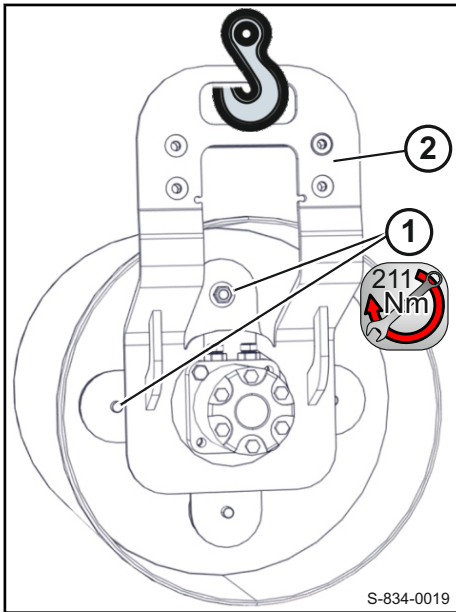
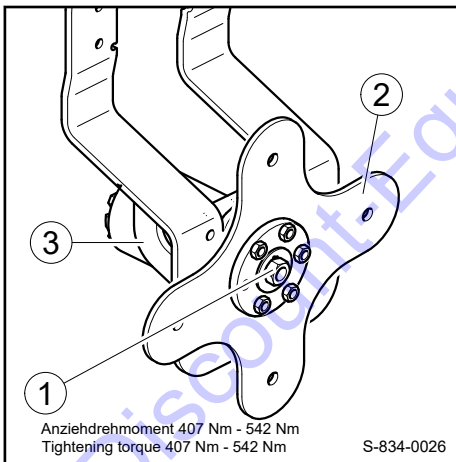

Fig. 216
Fig. 217
1. Attach the lifting tackle to support leg 2 ↪ Fig. 216.
2. Unscrew the four hexagon nuts (1).
3. Remove support leg (2) with travel motor and drive disc from the drum.
4. Unscrew hexagon nut 1 ↪ Fig. 217 and pull the drive disc (2) off the travel motor (3).